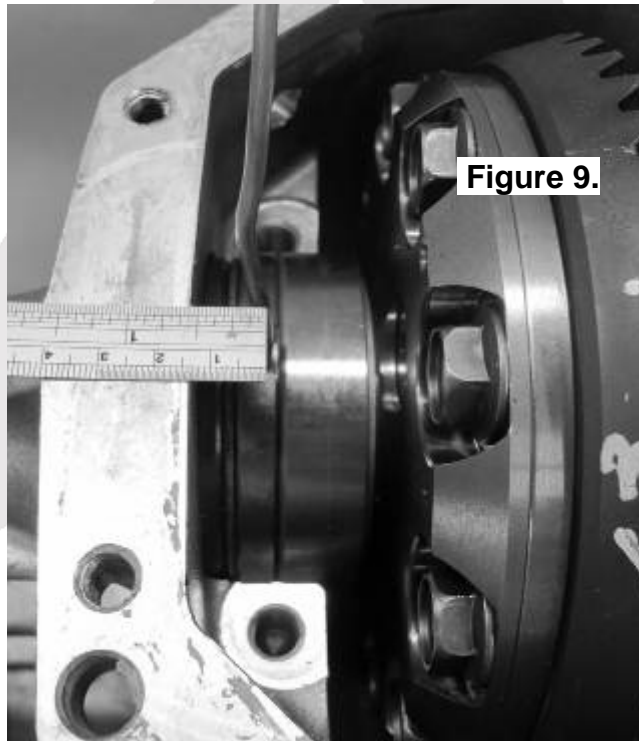

Figure 9.
- ☐ With the seal housing tube pointing straight out, measure the distance from a fixed position inside the differential housing to the center of the seal housing tube. (Fig. 9.)